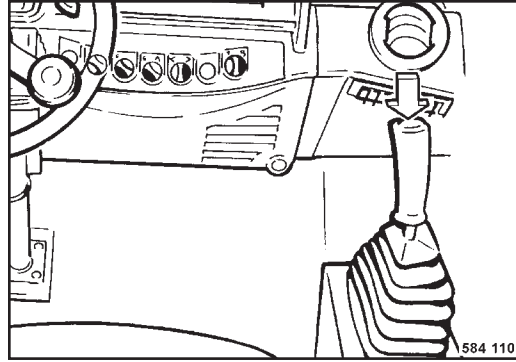

Fig. 51
- Press the push button (Fig. 51) in the travel lever while driving, the drum will vibrate.